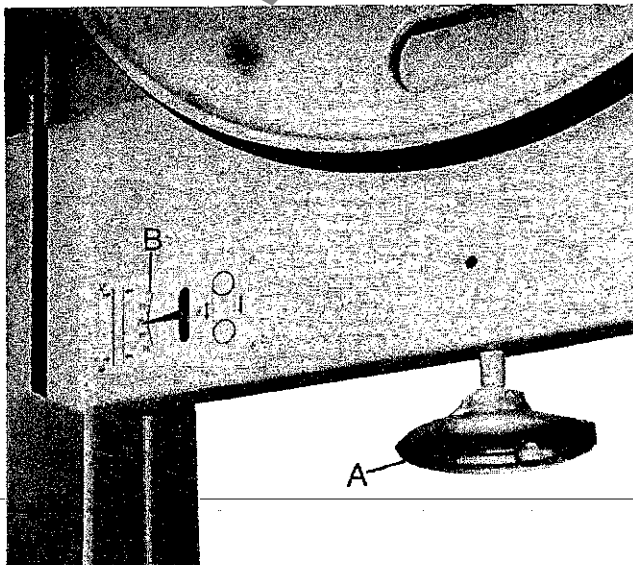

FIG 10
3. Turn handwheel "A", FIG.10, until pointer on scale "B" points to the corresponding width of blade being used.